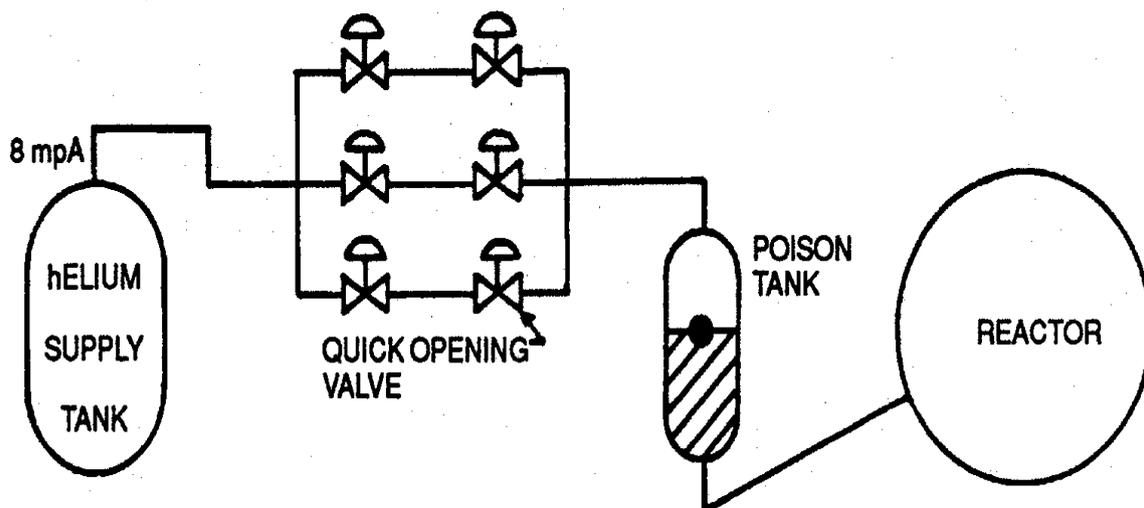

Figure 9: Simplified Poison Injection System for a CANDU reactor.
- Shown in Figure 9 is the simplified **poison injection system** of a CANDU reactor shutdown system.